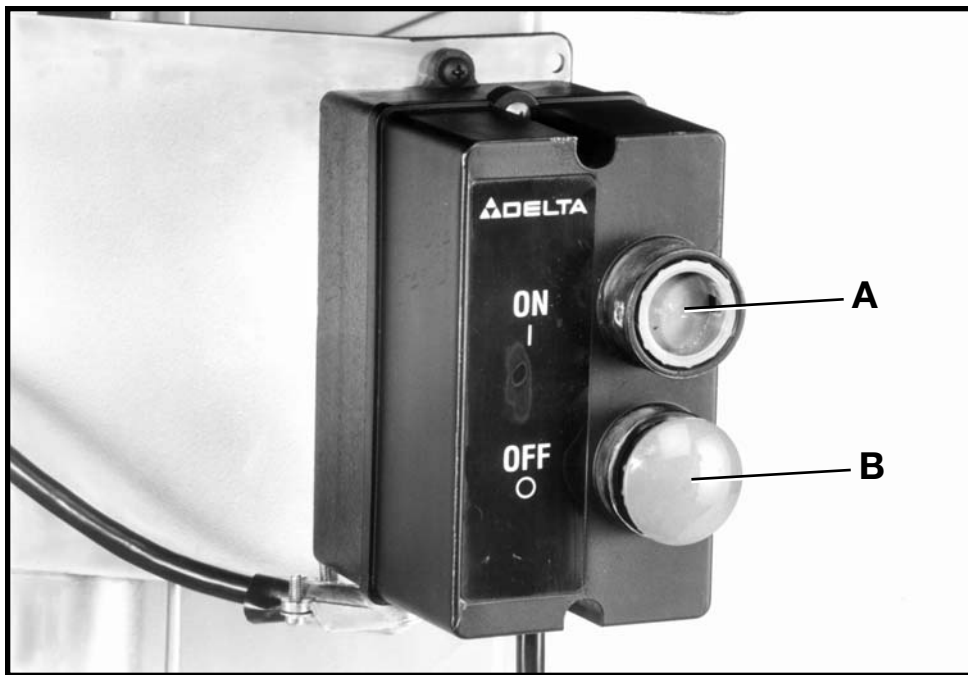

Fig. 43
To apply power to the machine, push “ON” button (A) Fig. 43. To stop the machine, push “OFF” button (B).